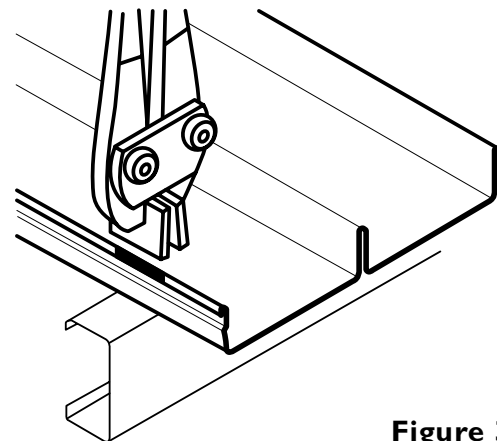

Figure 3
1. Using the rib closing tool, flatten the rib of the first (previous) sheet at each purlin where the top fixing clips will fit (Figure 3).